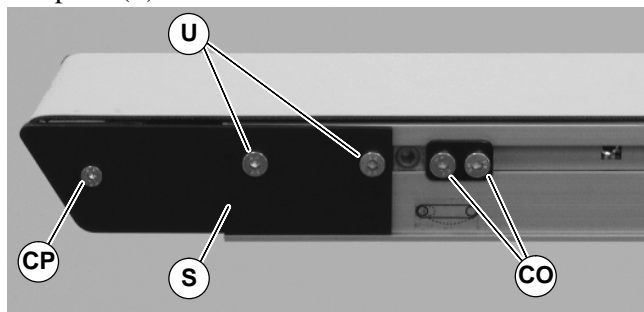

Figure 57
2. On one side of conveyor, use a 3 mm and 4 mm hex-key wrench to remove head plate fastening screws (CP & U of Figure 57) and remove head plate (S).
4. After replacing bearings, re-install head plate (S of Figure 57). Use a 3 mm hex-key wrench to tighten one (1) fastening screw (CP) to 30 in-lb (3.4 Nm). Leave two (2) fastening screws (U) loose for belt tensioning.